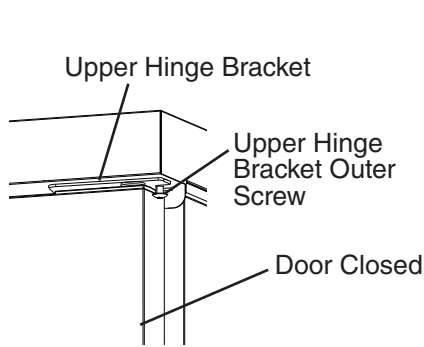
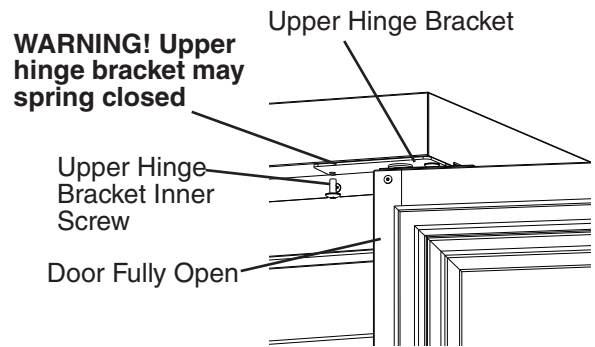

Fig. 30
Fig. 31
- 9) With the door closed, loosen, but do not remove, the upper hinge bracket outer screw. See Fig. 30. Next, open the door to the fully open position and remove the upper hinge bracket inner screw. See Fig. 31.